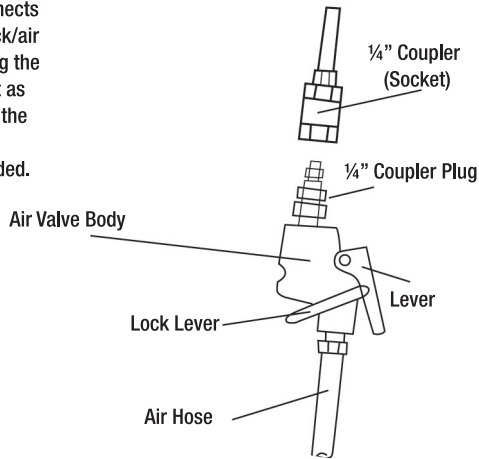

Figure 1
1. The jack comes fully assembled and easily connects to an air compressor. Figure 1 shows proper jack/air compressor connection. The air hose connecting the air compressor with the jack should be as short as possible. Installation of an air filter and oiler on the compressed is recommended. Use of a 3 horsepower or large compressor as recommended.